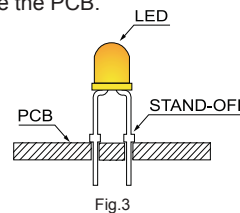
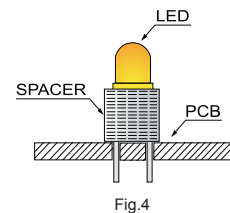

Fig.3
Fig.4
3. Use stand-offs (Fig.3) or spacers (Fig.4) to securely position the LED above the PCB.